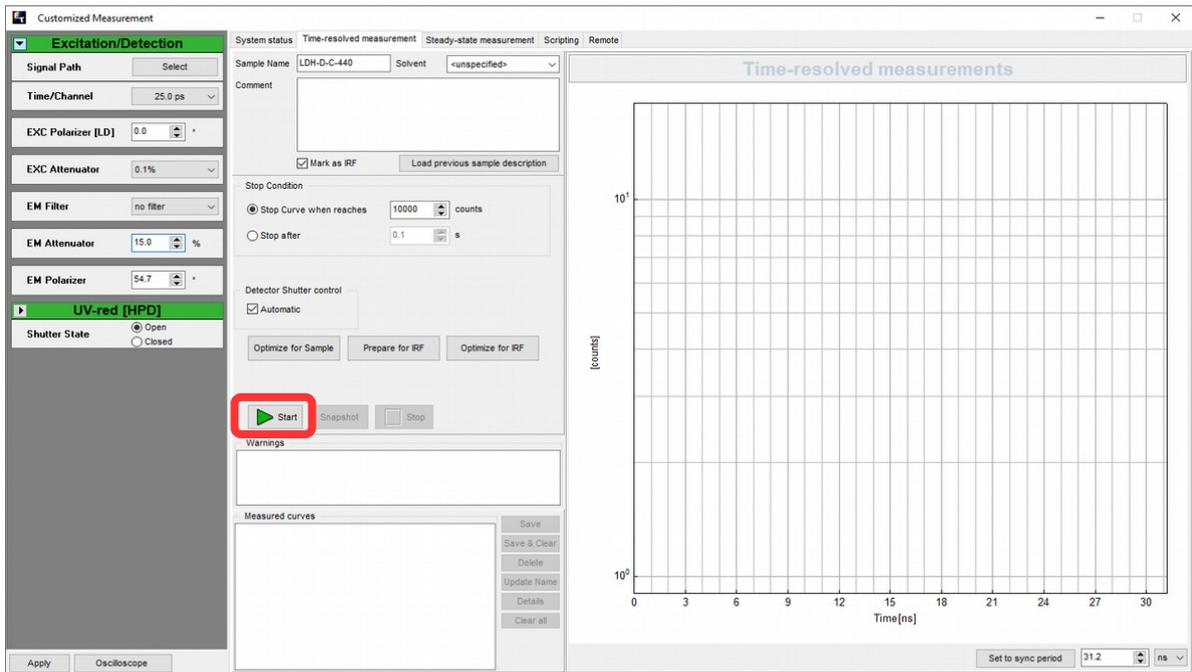

Fig. 34: Start measuring the IRF.
- Press “Start” button and collect IRF signal (Fig. 34).